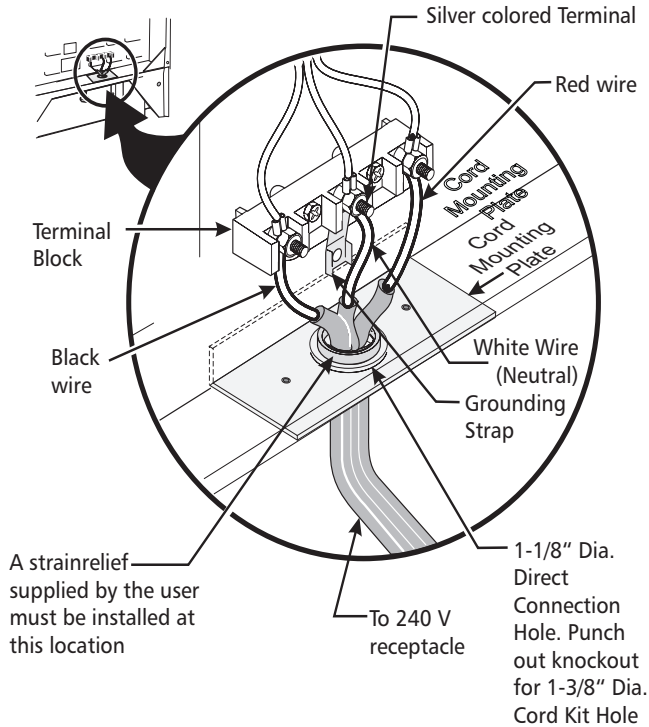

Figure 3
NOTE: Range is shipped from factory with 1 1/8" dia. hole as shown in figure 3. If a larger hole is required, punch out the knockout.
(The 3-conductor cord or cable must be replaced with a 4-conductor cord or cable where grounding through the neutral conductor is prohibited in new installations, mobile homes, recreational vehicles or in other areas where local codes do not permit neutral grounding) If local codes permit connection of the frame grounding conductor to the neutral wire of the copper power supply cord (see Figure 3):
4. Replace the 3 nuts on the terminal block (see figure 3).